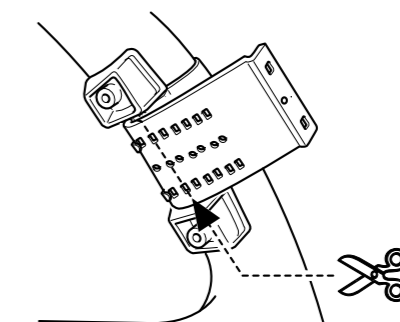

Fig. 15
2. Cut the extra portion of the belt at the center of the inner holder. (Fig. 15)